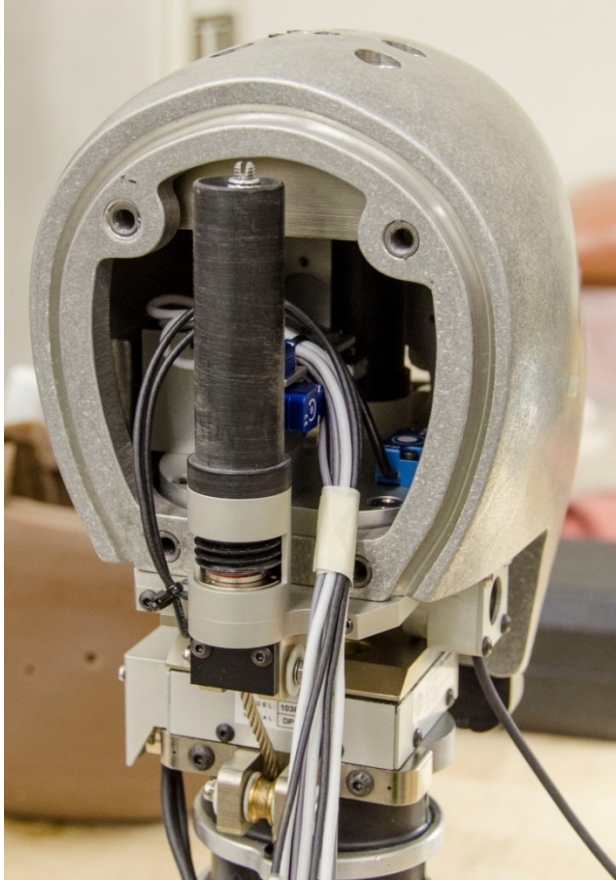

Figure 15-16. Secure head bundle with masking tape
15.4.1.5 Gather the bundle from the internal head instrumentation, occipital condyle pot, head tilt sensor, along with the front and rear spring tower load cells; use masking tape to secure the cable bundle. Use of masking tape is recommended over duct tape since it will tear if the cable is tugged, preventing damage to instrumentation (Figure 15-16).